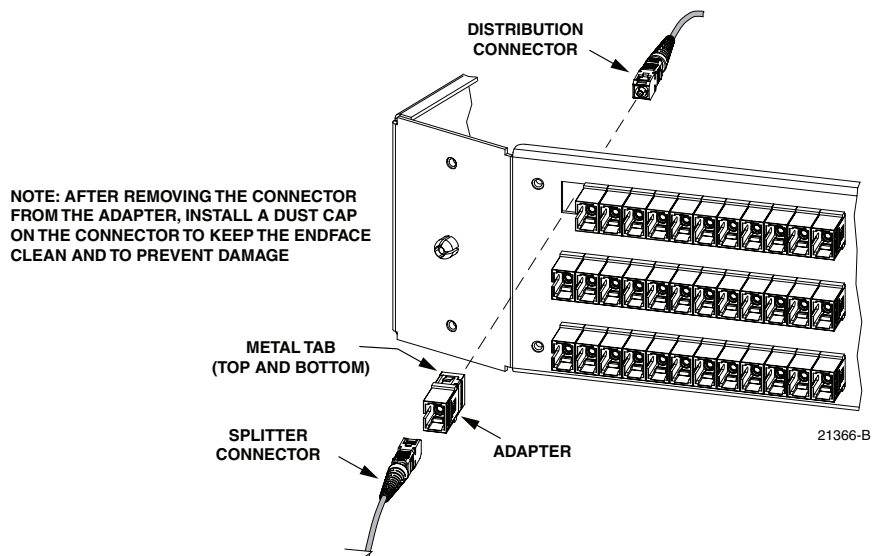

Figure 21. Adapter Removal and Replacement
1. Disconnect the splitter output connector from the front side of the broken adapter as shown in Figure 21 and install a dust cap on the connector.